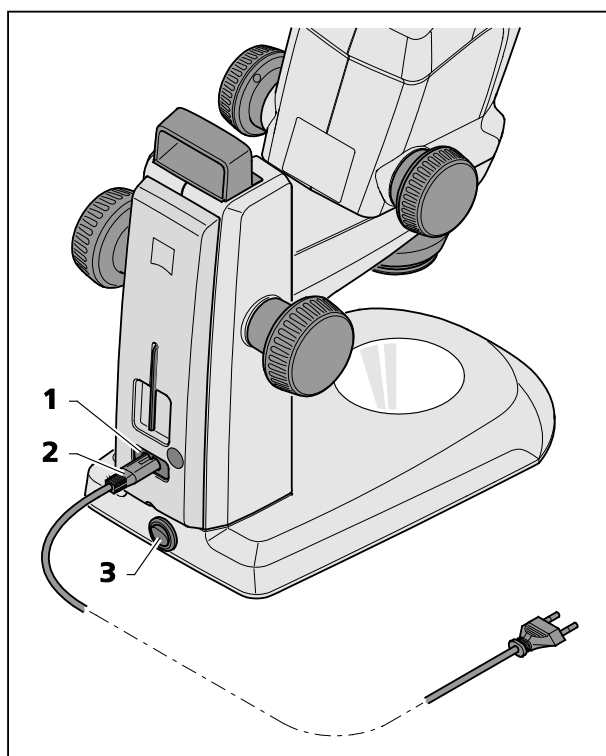

Fig. 13 Connecting the stereo microscope
- Insert the mains cable (Fig. 13/2) in the mains supply socket (Fig. 13/1) of the stand.
- Connect the mains cable (Fig. 13/2) to a mains supply socket outlet.
- Use the power switch (Fig. 13/3) to switch the stereo microscope ON or OFF.